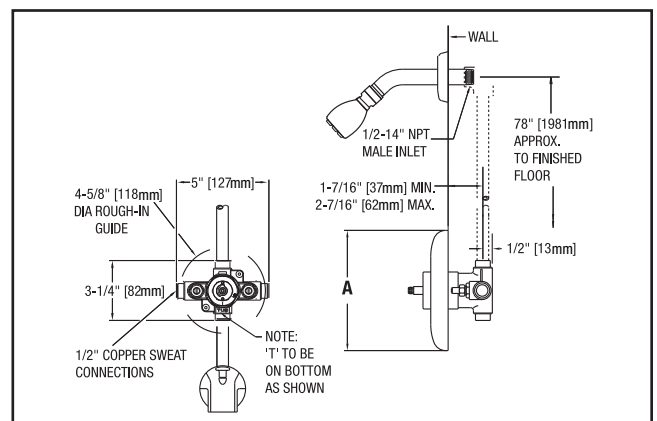

Figure 2: Rough-in Dimensions - Shower Only
- For shower only installation (see Figure 2). Pipe top outlet port "S" directly to the showerhead and plug bottom port.